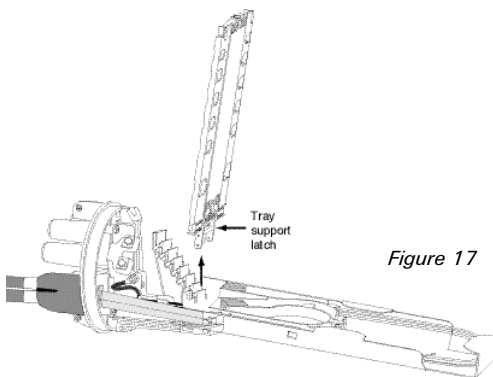

Figure 17
1. Raise or remove the upper splice organizer trays to expose the D basket as shown in Figure 17.